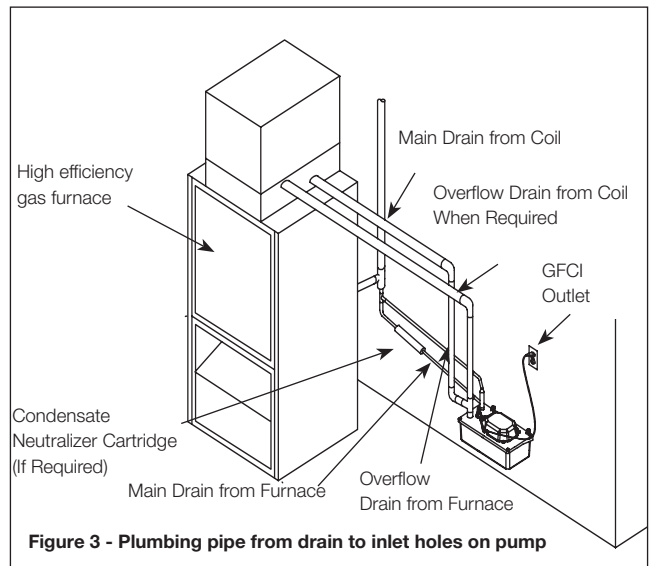

Figure 3 - Plumbing pipe from drain to inlet holes on pump
- B. Plumb flexible tube or pipe from the condensate drain, and from the furnace drain (if applicable), to the inlet holes on the pump. Refer to Figure 3.
12. Local codes may require the use of a condensate neutralizer when using this pump (refer to Figure 3).